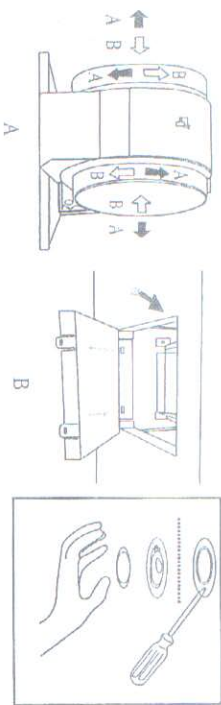

Fig.6
- The active carbon filters purify the air that is replaced in the environment. The filters are not washable or reusable and must be replaced at maximum every four months. The saturation of the active carbon filter depends on the frequency of use of the appliance, also by the type of cooking and the regularity of cleaning on the anti-grease filters. (Fig.6) To remove the charcoal filters place our hand on one filter at a time and turn it toward the beam part. The charcoal filter can now be removed. Always ensure to replace both filters at the same time.